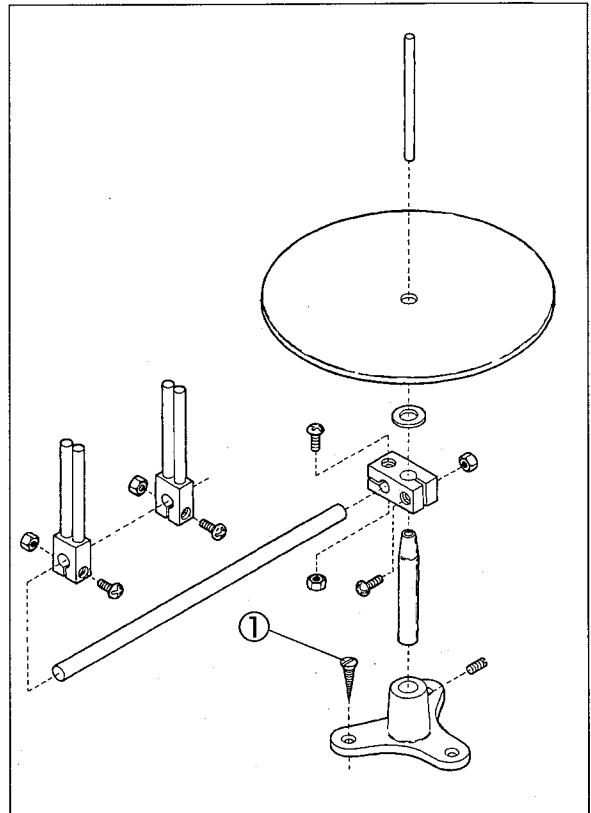

Fig. 7-3
Set the tape role on the tape stand ① (Fig. 7-3).